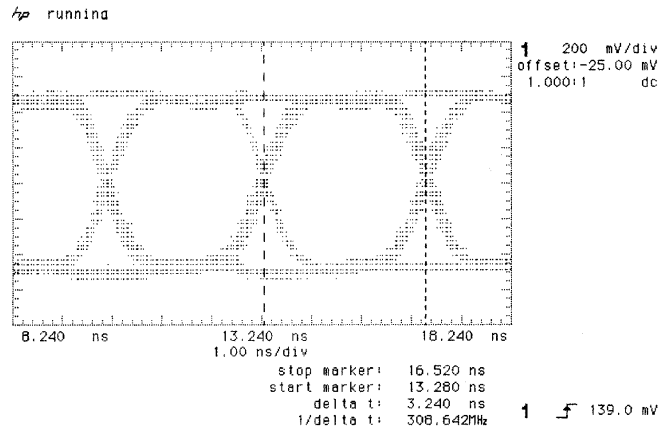

Figure 3-63 STS-3 Eye Diagram Pattern
13. Adjust the Oscilloscope controls to display the eye diagram as shown in Figure 3-63, STS-3 Eye Diagram Example. Check that the waveform meets the STS-3 eye diagram mask. It may be necessary to adjust the V/div gain on the Oscilloscope.